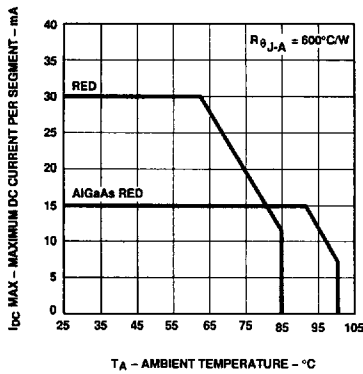

Figure 3. Maximum Allowable DC Current vs. Ambient Temperature. $T_{J,MAX} = 100^{\circ}\text{C}$ for Red and $T_{J,MAX} = 110^{\circ}\text{C}$ for AlGaAs Red.
- Derate maximum DC current for Red above $T_A = 62^\circ\text{C}$ at 0.79 mA/°C, and AlGaAs Red above $T_A = 91^\circ\text{C}$ at 0.8 mA/°C. See Figure 3.